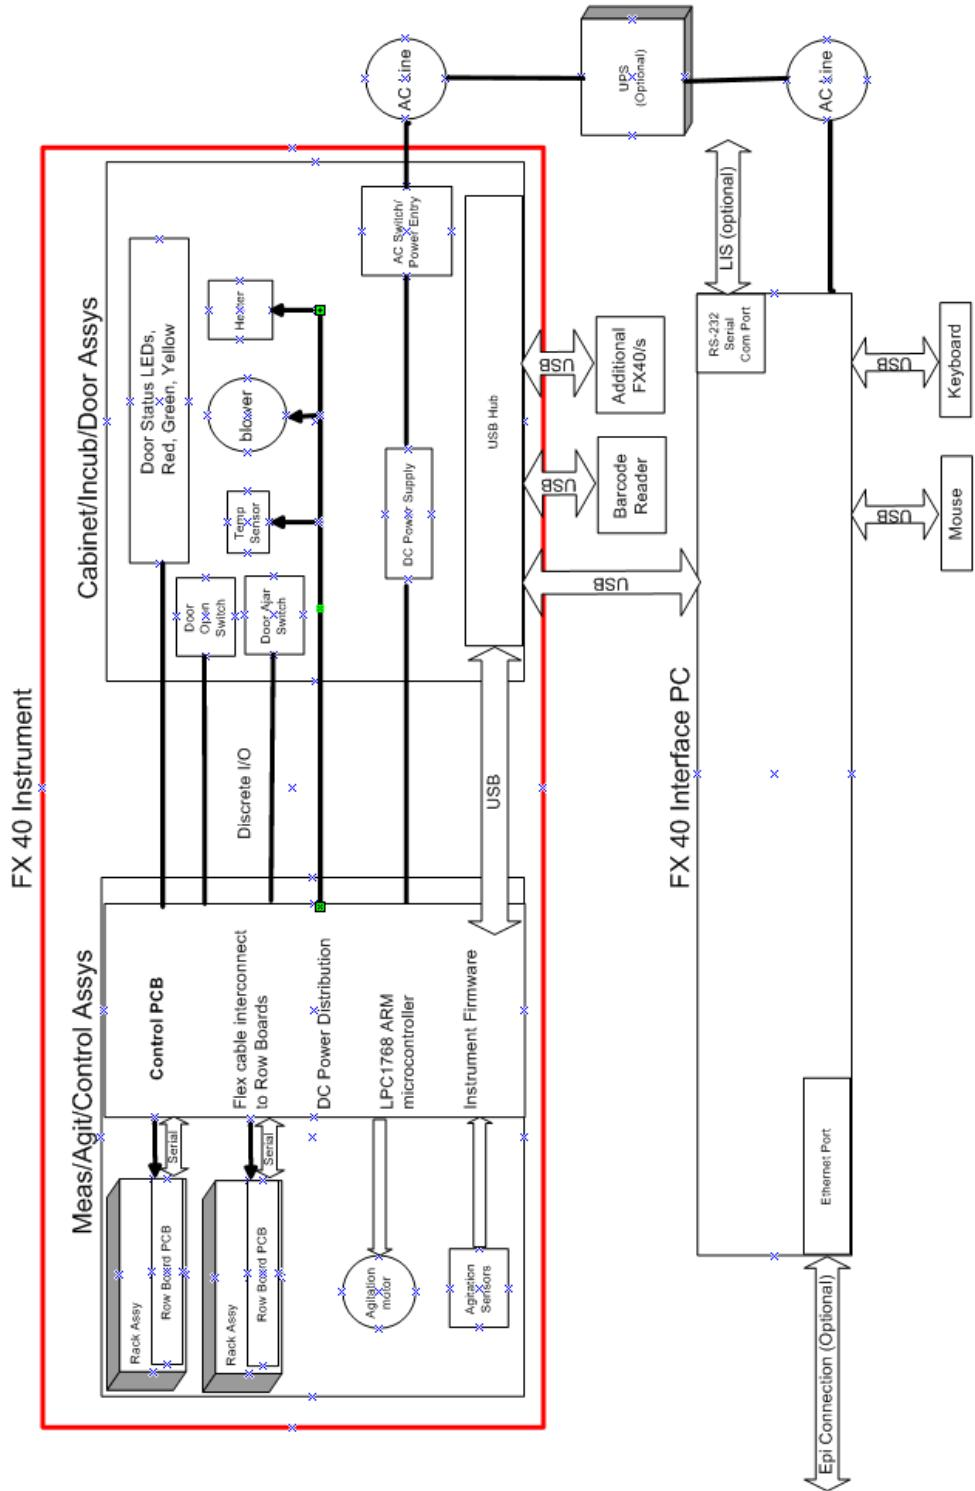

Figure 3
**Figure 3** shows a physical connection diagram.